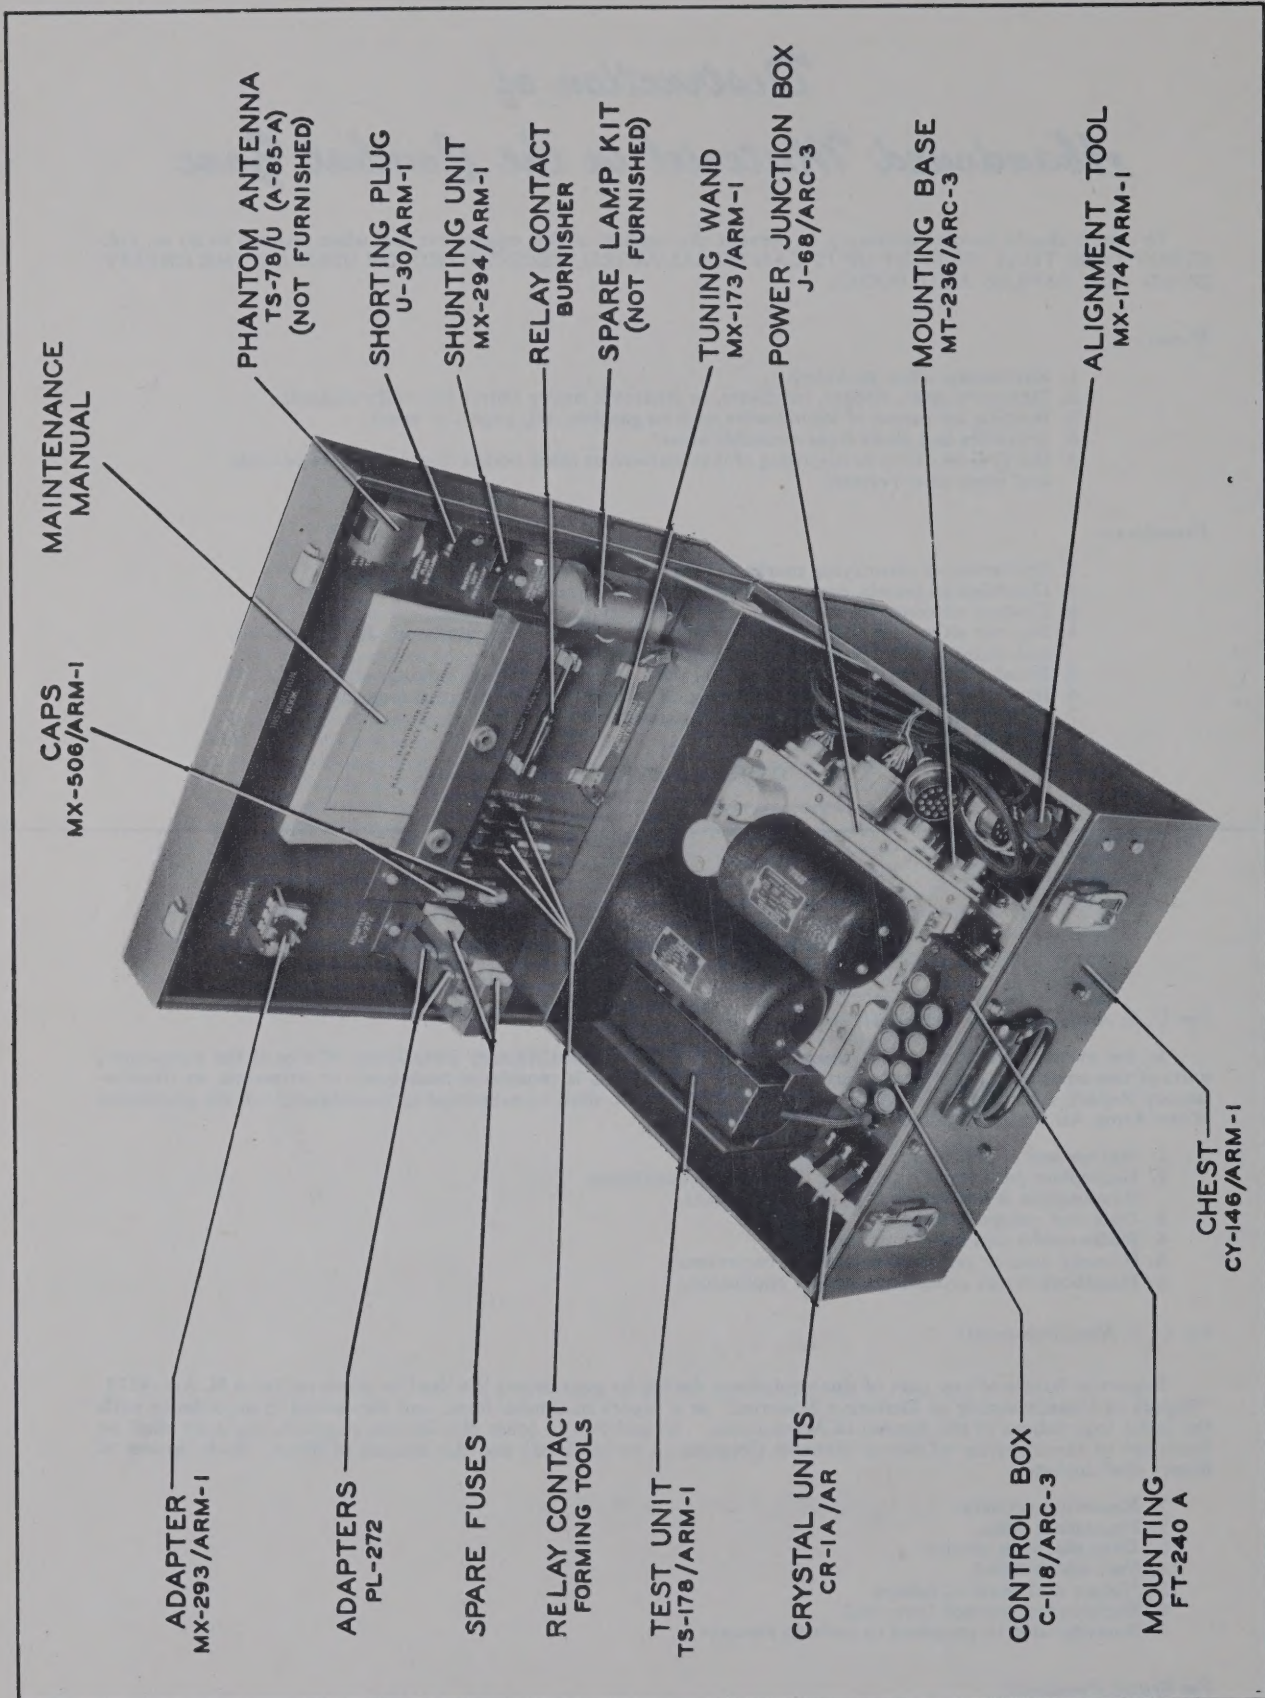

Figure 1-1. Radio Test Set AN/ARM-1 — Interior View with Equipment Identified
a. **PURPOSE.**—Radio Test Set AN/ARM-1 is designed for use in the alignment, testing, and maintenance of Radio Set AN/ARC-3. It is not designed for operation during flight, but it may be transported by air or vehicle to the various points where maintenance work will be performed. (See fig. 1-1.)
(See figures 1-1 and 1-2.)
b. **MOUNTING BASE MT-236/ARC-3.**—This power junction box mounting base is fastened to the bottom of Chest CY-146/ARM-1. (See fig. 1-1.) This mounting, rectangular in shape and made of cadmium-plated steel, has a shock absorber mounted on each of the four corners. A rubber mounting, the peak of which contains a snapslide stud, in the top of each shock absorber is held in place by a rolled edge. A grounding strap is provided at diagonally opposite corners.
f. TEST UNIT TS-178/ARM-1. — A compartment in the chest is provided for the test unit. (See figs. 1-1 and 1-6.) This unit is housed in a black wrinkle-finish steel case with a black steel front panel. The front panel is fastened to the case with eight screws. A panel type meter, calibrated from 0 to 100, is located near the top of this panel. Directly below is a selector switch with the points marked "OSC," "1," "2," "3," "4 REC," "4 TRANS," "A+," and "B+." Extending from the top of the case is a cable approximately 54 inches long. This cable terminates in Plug PL-152.